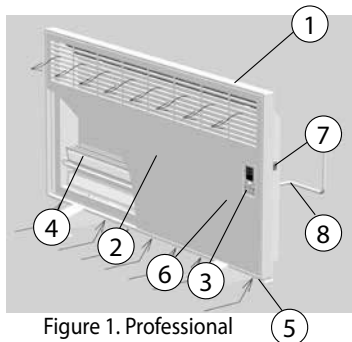

Figure 1. Professional Panel Convector
Put the plug in a grounded socket to operate your appliance. Bring the On/Off switch  (Figure 1.) ON position (You will see the button on "I" position). Push the On/Off  button of your appliance for a short while. The unit will turn on. You will see the room temperature on the Indicator Display when the appliance turns on.
Turn on timer covers a period of forty-eight (48) hours. The indicator display 23 will be set to zero if the program memory is set for more than forty-eight (48) hours. E.g. you are leaving your house and want the appliance to operate before you come home. In this case the plug must be placed in the socket and the On/Off switch  (See Figure 1.) has to be on and the on/off button should be off. You have to push the timer setting button  without pushing the On/Off button . You have to keep the button pushed until the hour requested for the commencement of the operation of the appliance appears on the screen. When the setting is completed a warning light will appear on the indicator display and will shine until the appliance starts to operate. The unit will run automatically on the set time automatically and will start heating. If you want to reset the timer you have to push the button  to on position and then off again.